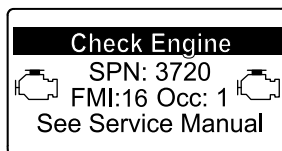

Figure 43
- Engine warning SPN 3720, FMI 16 (Figure 43)